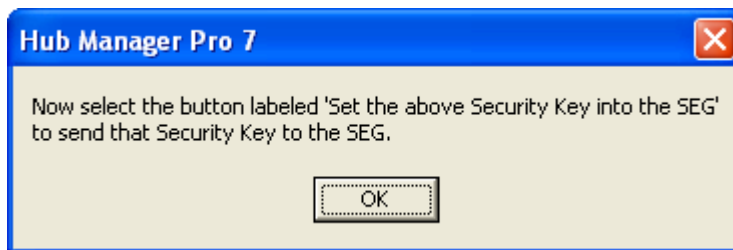

Figure 6: Generate Security Key
8. A message will then tell you to select the button labeled 'Set the Above Security Key into the SEG. (Fig. 6). Select that button to send the new Security Key to the selected SEG.